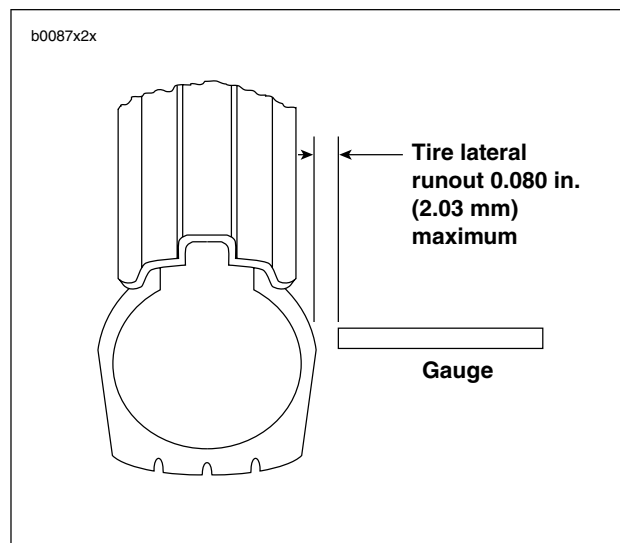

Figure 2-15. Checking Tire Lateral Runout
1. See Figure 2-15. Turn wheel on axle and measure amount of displacement from a fixed point to tire sidewall.